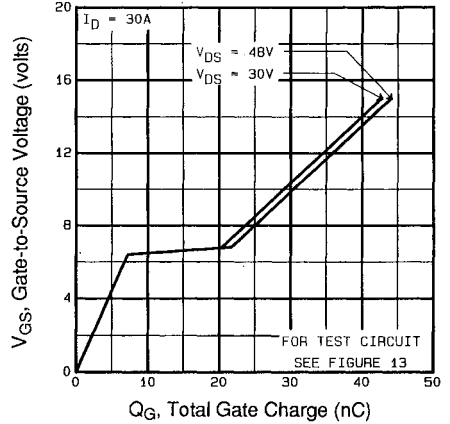

Fig 6. Typical Gate Charge Vs. Gate-to-Source Voltage
| Q_{gd} | Gate-to-Drain ("Miller") Charge | — | — | 22 | | $V_{GS}=10\text{V}$ See Fig. 6 and 13 ④ |